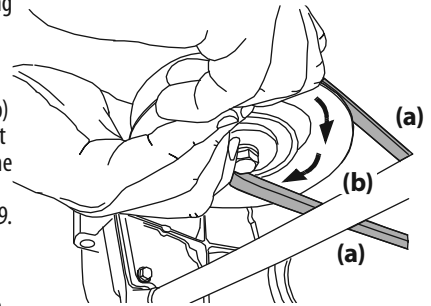

Figure 39
- d. While still holding the PTO belt (a) downward, continue turning the PTO pulley (b) until the PTO belt (a) is rolled off the PTO pulley (b). Refer to Figure 39.
8. Pull the right side of the PTO belt rearward and place the narrow V-side of the PTO belt into the PTO pulley. See Figure 39.
9. While holding the PTO belt and PTO pulley together, rotate the PTO pulley to the left (See Figure 39). Continue holding and rotating the PTO pulley and PTO belt until the PTO belt is fully rolled into the PTO pulley.